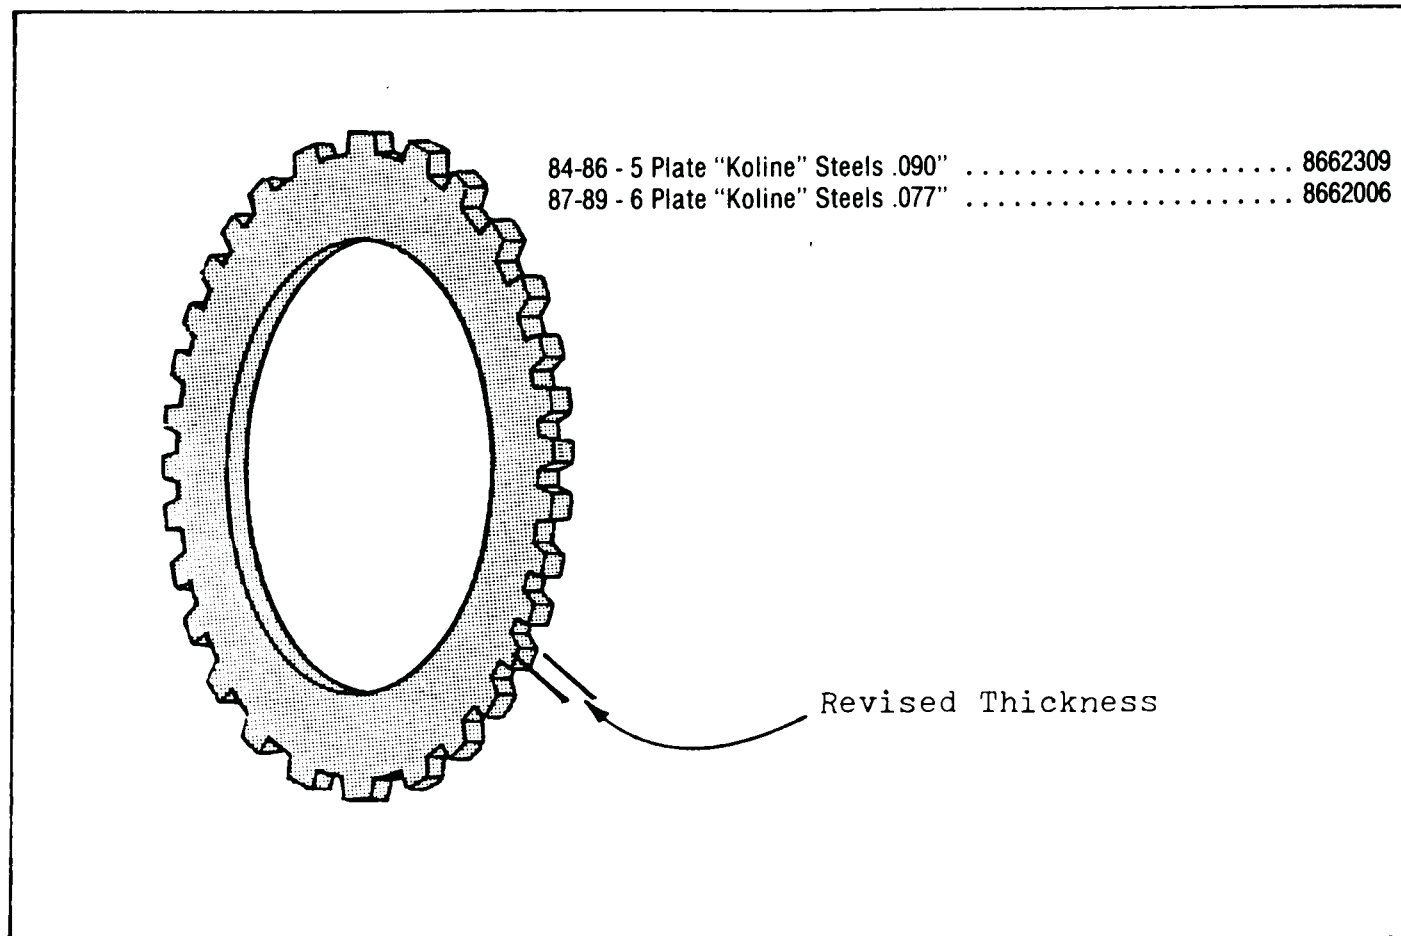

Figure 35
- 3) "Koline" Steel Clutch Plates - Revised thickness, (See Figure 35).
The steel plates in the 440-T4 2nd clutch are unique, in that they are black in color. They have a black coating on them called "Koline" plating, for shift pleasability (See Figure 35).
The thickness of the "Koline" plates were revised for 1987, with the addition of the 6 plate 2nd clutch pack (See Figure 35).